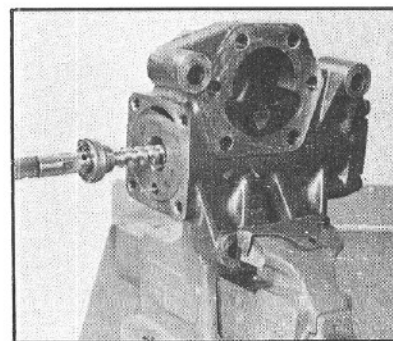

Figure 124
24. Position the rack piston so that it is flush with the open end of the gear housing. Rotate the worm shaft (17) until it extends out of the rack piston as far as it will go. (FIG. 124).